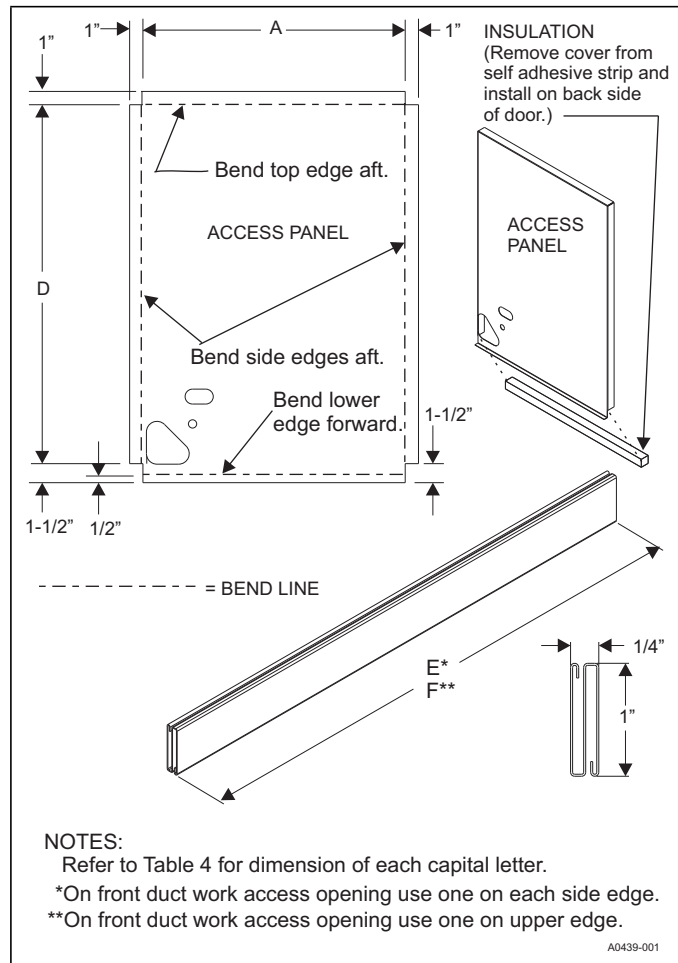

FIGURE 14: Access Panel and Standard S-Lock
9. Fabricate a coil access panel as shown in Figure 14 using lettered measurements listed in Table 5. Before making any bends or cuts, use supplied paper template from Figure 18 on the back page of this instruction manual to mark the drain and refrigeration piping openings on the coil access panel.
11. Fabricate three standard S-Locks for coil access panel installation. Refer to designated sizes shown in Figure 14 and listed in Table 5. Install standard S-Locks onto sides and top edges of the plenum access opening.